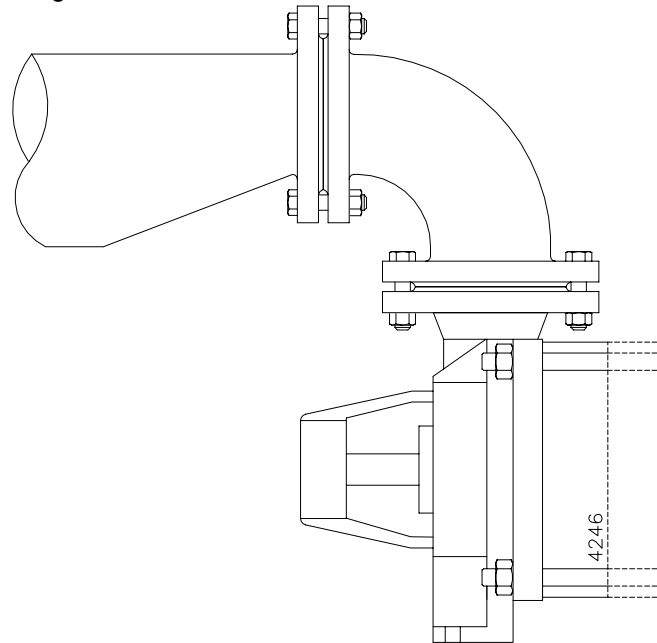

figure 3: *Eccentric reducer to suction flange.*
- The suction pipe bore must be adequately dimensioned. This pipe must be as short as possible and led to the pump in such a way that no air pockets can be created. If this is not possible, a venting facility must be fitted at the highest point. If the suction pipe has a larger bore than the suction connection on the pump then an eccentric reducer must be used, so that no turbulence can be created, see figure 3.